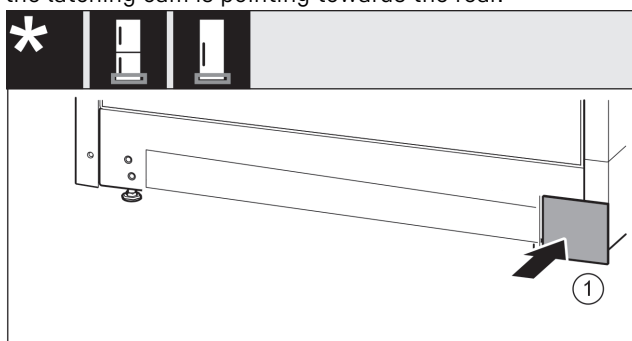

Fig. 50
- Re-attach the cover Fig. 50 (1) to the other side.